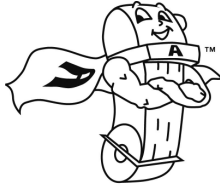

**Figure 5**
2. Optional Dual Position Mounting Bracket - for use when mounting unit to a vertical wall, flanged tank or open top drum. Note: When mounting with the bracket, the bolt plate is used to secure the skimmer. (See Fig. 7) The bolt plate is always used on the horizontal surface of the bracket. (See Figures 5 & 6)